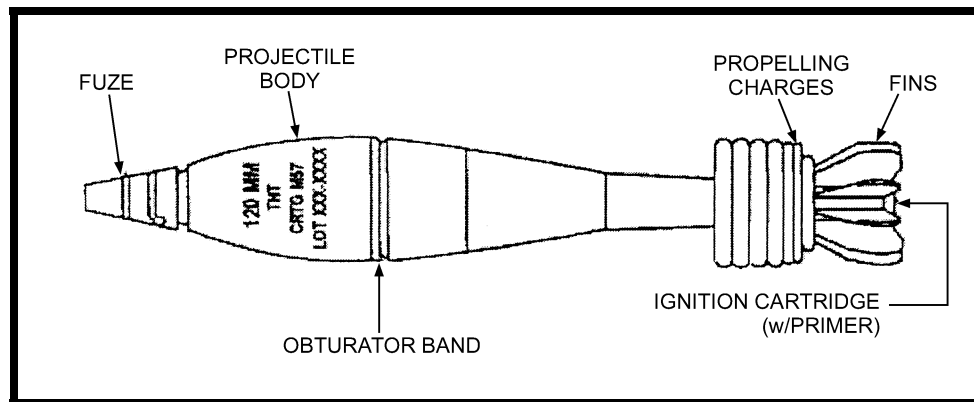
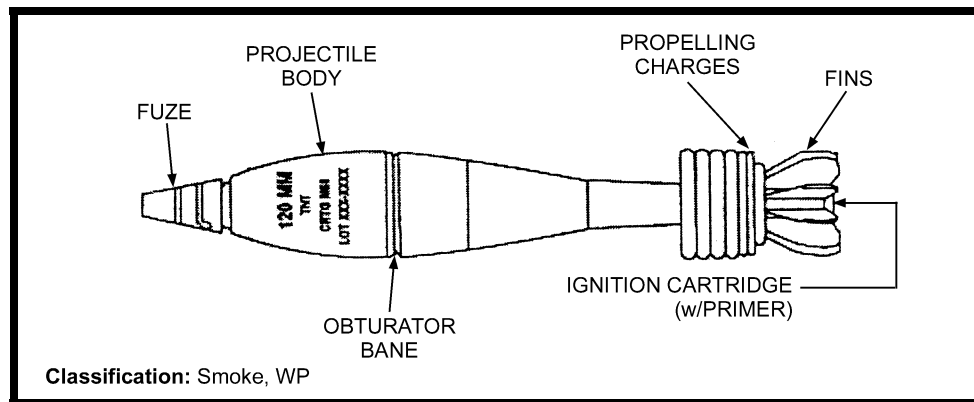

Figure 7-9. M57 HE cartridge.
Figure 7-10. M68 smoke cartridge.
- a. **M57 HE Cartridge (NDI)** (Figure 7-9).
- (1) Type and use: High explosive fragmentation and blast.
- (2) Identification: Olive drab with yellow markings.
- (3) Components: M935 point detonating (PD) fuze.
- (4) Maximum range: 6,300 meters at charge 8; 7,200 meters at charge 10.
(5) Remarks: Used against personnel (in open or in bunkers), light vehicles, and light bunkers; weight to 20 pounds (13.18 kilograms).
b. **M68 Smoke Cartridge (NDI)** (Figure 7-10).
(1) Identification: Light green with red markings.
(2) Components: M935 PD fuze.
(3) Maximum range: 6,300 meters at charge 8; 7,200 meters at charge 10.
(4) Remarks: Used for screening and spotting.